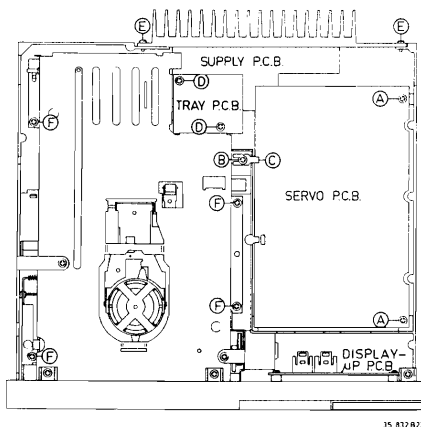

Fig. 3
- Remove the 2 screws E (see Fig. 3).
SERVICING THE SERVO PCB AND THE DECODER PCB (see Fig. 3)
- Remove the 4 screws F (see Fig. 3).